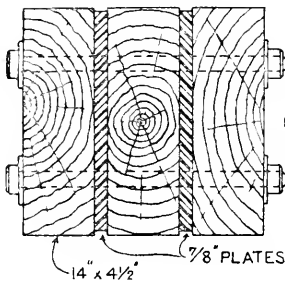
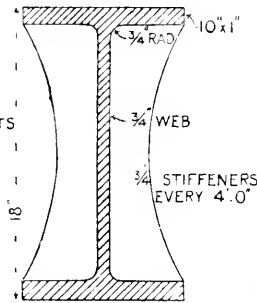

Fig. 1
Fig. 2
Working a Ship's Log.—The speed of a ship is ascertained by the "patent log" or by a "log ship" and sand glass, the latter still being preferred by most sailing ship masters. The "log ship," two forms of which are given in Figs. 1 and 2, is hove over the weather quarter attached to the log line divided into "knots," a "knot" bearing the same proportion to a mile as the sand glass running in seconds does to an hour. Sand glasses, or "log glasses," are made to run 11 seconds and 28 seconds (the former being for use when fast travelling, and the knots by line have of course to be doubled if spaced for 28 seconds). It must be remembered a nautical mile is 2,027 yds., usually called 6,080 ft. It corresponds with the minutes of arc; thus there are $360 \div 60 = 21,600$ of arc, or nautical miles, on a "great circle" (or the equator). The number of yards therefore in a "great circle" divided by 21,600 will give the number of yards in a nautical mile. In calculating the length of a knot in feet, the rule adopted is this. To the seconds run by the glass affix a cypher and divide by 6. The remainder when doubled gives the inches. Thus for a 28-second glass $280 \div 6 = 46 + 4$, or the distance between adjacent knots = 46 ft. 8 in. This is not correct, but the error is for safety, as the ship, unaffected by favourable currents, will be behind her position by log or "dead reckoning," as it is called. To calculate the exact length between adjacent
knots on the line, multiply 2,027 by 14 or 28 and divide by 3,600. Fig. 1 is the wooden log ship; it is a wooden quadrant about $\frac{1}{2}$ in. thick and 10 in. diameter, the arc being weighted with lead to make the log float vertically. The end of the log line L passes through a hole and is secured by knotting at the back, while a wooden peg P is attached to a span B from the line L. When the log line is suddenly checked in its running out, this wooden peg withdraws its hold in the quadrant, and the log ship is hauled in with ease. The canvas log is shown in Fig. 2. The log line is attached at D to the canvas bag C, at the mouth of which is a span seized to the peg at E, which is pushed into a wooden ferrule W seized to the log line; when the line is checked the peg withdraws as in the former case, and the bag closes, being hauled in bottom foremost. The "patent log," by which name the several revolving logs go at sea, is self-registering, and not hove at intervals as the former kind. A meter is clamped to the taffrail, showing on its face by three hands the units, tens, and hundreds of nautical miles run since the last setting, which is done at noon. This meter is a simple train of wheels to which motion is imparted by a threaded pin. At the back of the meter and attached to the pin is a brass universal joint J (Fig. 3), to which is secured the end of a line sufficiently long to clear the eddies and backwash of propellers, etc. At the other end is the spinner, a three-bladed brass fan, pitched to revolve at such a speed that after being towed one mile the unit hand on the meter shall have made one revolution from 0 to 9, the intermediates being marked 1, 2, 3, 4. Sometimes a light fly-wheel is attached to the line in t abut the taffrail, but this is not really necessary. Ball bearings between a cone collar on the shaft and a dished
How to Make a Bevel Set-square.—Fig. 1 shows a side elevation of a carpenter's bevel set-square of suitable dimensions for setting out diminished stile doors constructed of plank widths; but a much smaller tool would be more handy for general purposes. The tool consists of two parts: a skeleton set-square made of steel or stout zinc, the former preferably, and an adjustable stock working in a slot which is about two-thirds the length of the long edge of the square. The stock is very similar to that of an ordinary bevel, except that it is in two parts which are connected at the ends by means of clamping set-screws, as shown in the end elevation (Fig. 2);
it is applied. The tool can easily be changed into a perfectly true mitre square by fixing the stock at equal distances along both edges from the angle, or it can be used as an ordinary bevel. A wooden instrument based on the same principles is used by some joiners, but it is a clumsy article, and cannot be finely adjusted. The tool can be used as a set-square, or, by clamping down the stock in the position shown by dotted lines in Fig. 1, as a try-square.
the tool can thus be adjusted to almost any position. Fig. 3 is a part elevation of a diminished stile door, shown in order to explain the application of the tool in setting-out the shoulders of the joint. This is shown in detail at Fig. 1. The dotted lines on the part A are the setting-out lines for the rail, and those on the part B are the setting-out lines for the stile. Figs. 3 and 4 should be compared. The rail and stile are shown separated in the sketch for the purpose of illustrating the method of using the square. Fig. 5 shows another joint where the tool can be applied with advantage. Fig. 6 shows the tool being used as a pitch-board; it can be worked from either edge of the string, and although it does not do away with the wooden pitch-board itself, no sliding slip is required, while its thinness and metal edges enable a much cleaner job to be made with the striking-knife. Fig. 7 shows the tool applied to roofing. A number of rafters can be laid side by side, and the length squared across them with a line at both ends. The stock of the square is then set to the pitch of the roof, and both bevels are obtained at once; no awkward moulds require to be lifted up and down, and both the bevels and the square are comprised in the same instrument. Fig. 8 shows a mitred joint of two different thicknesses of wood; the thick lines show the edges of the square when
Comparative Designs of Girders.—Assuming the load is 10 tons distributed over a span of 18 ft., the calculations will be as follows. (1) Flitch beam: $W = \frac{d^3}{L} (C b + 30 t)$; where W = breaking weight in cwt. in centre; d = depth in inches; L = span in feet; C = constant = 3 for Memel; b = total breadth of timber in inches; t = thickness of flitch plate in inches. Factor of safety, 10. One or two trial designs may be necessary before finding a suitable one, when Fig. 1 may be decided upon. Ten tons distributed = 5 tons
in centre multiplied by 10 for breaking weight = 50 tons = 1,000 cwt. Breaking weight = $\frac{14 \times 11}{18} (3 \times 14 + 30 \times 1\frac{1}{2}) = \frac{93}{9} (42 + 52\frac{1}{2}) = \frac{98 \times 94\frac{1}{2}}{9} = 1,029$, or a trifle in excess of the strength required. (2) Cast-iron girder: Depth, say, one-twelfth of the span = 18 in. Stress in bottom flange $\frac{Wl}{8d} = \frac{10 \times 18}{8 \times 15} = 15$ tons. Allow $1\frac{1}{2}$ tons per square inch in tension; $\frac{15}{1\frac{1}{2}} = 10$ sq. in. Make top flange same size to allow width for building upon and possible tension in top flange from ends being built in, so that the section will be as Fig. 2. (3) Wrought-iron plate girder: For the same depth the stress in bottom flange will be as found above = 15 tons. Allow 4 tons per square inch on the gross sectional area = $3\frac{3}{4}$ sq. in. Say, one $\frac{1}{2}$ -in. plate 8 in. wide for each flange, with 2 $\frac{1}{2}$ -in. by 2 $\frac{1}{2}$ -in. angle irons, and $\frac{1}{2}$ -in. web, and stiffeners every 1 ft., as in Fig. 3. Rolled steel joist: By reference to Dorman Long & Co.'s section book, a 12 in. by 5 in. by 32 lb. rolled steel joist will carry 10 tons distributed over a span of 18 ft.; but 5 in. is narrow to build upon, and a $\frac{1}{2}$ -in. top plate would be a desirable addition, as in Fig. 4.